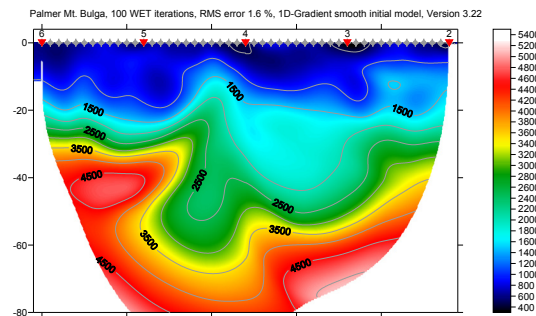

Fig. 10 : 100 WET iterations, wavepath width 5.5%. RMS error is 1.6%, starting model is Fig. 5.
- click buttons *Accept parameters* and *Start tomography processing*. Obtain Fig. 10 and 11.